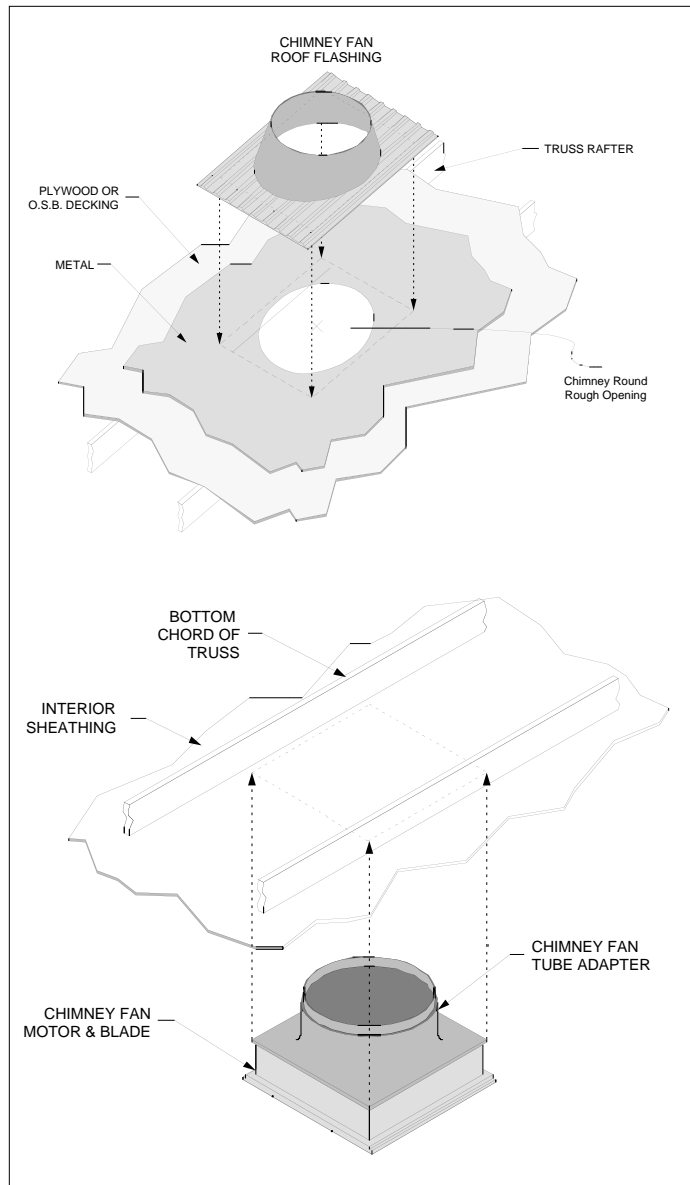

Figure 2 Rough opening details
2. Mark and cut the rough openings in the ceiling and roof as indicated in Table 1 and Figure 2. Use a plumb bob to ensure alignment.